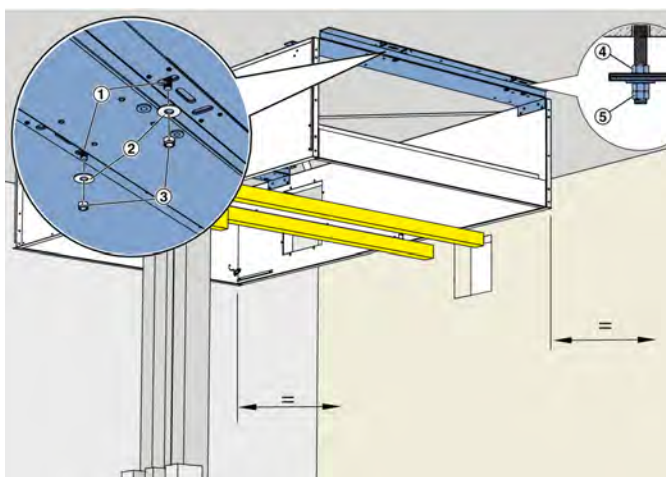

Fig. 30: Mark and drill fixing points
Blow out the drill holes, mount the heavy-duty anchor and screw in the threaded rods and, if necessary, screw on one nut per threaded rod as a stop (Fig. 30 /4).
Move door frame component 1 back to the assembly position with the lift and fasten it to the threaded rods (Fig. 30 /1) with body washers (Fig. 30 /2) and nuts (Fig. 30 /3).
3. ▶ Align the device component in a horizontal position and tighten the nuts of all ceiling fixtures; the door frame component hangs freely suspended (not pressed against the ceiling) so that it can still be aligned later. Secure nuts with lock nuts (Fig. 30 /5).